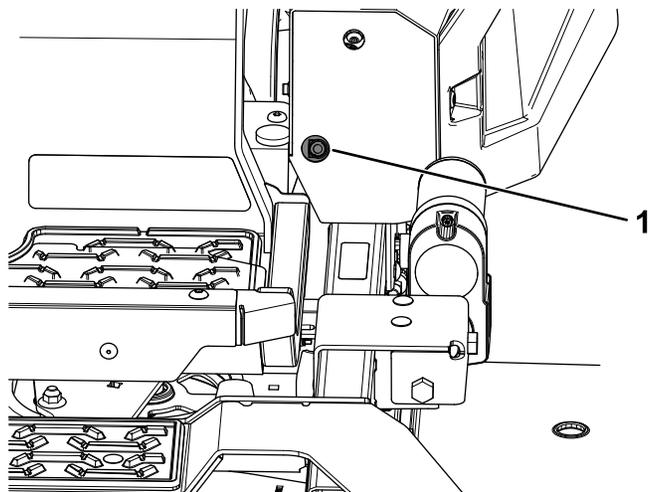
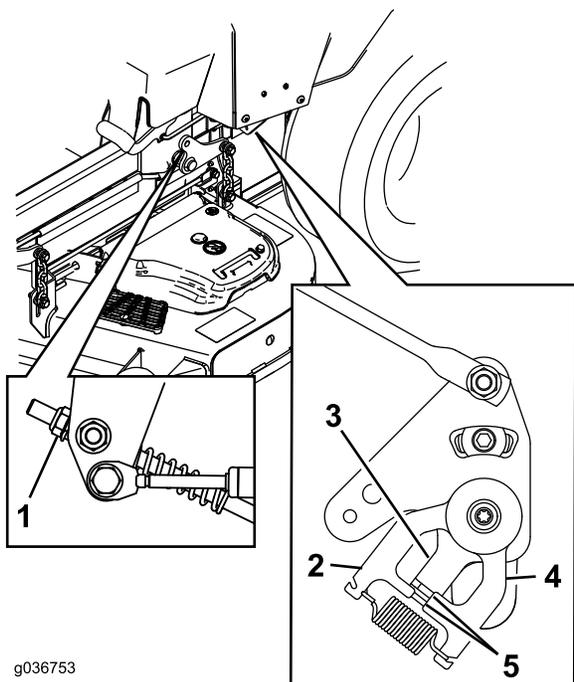

Figure 69
Figure 70
- Adjust the pump-control-rod lengths by rotating the nut in the appropriate direction until the wheels slightly creep in reverse (Figure 69 and Figure 70).